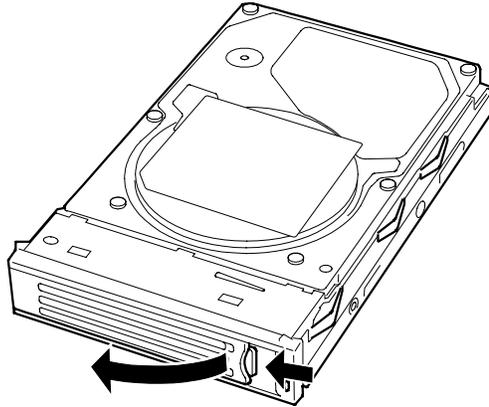

Figure 4-20. Unlocking the Drive Carrier
5. Unlock the lever of the hard disk drive carrier and open the handle. See Figure 4-20.